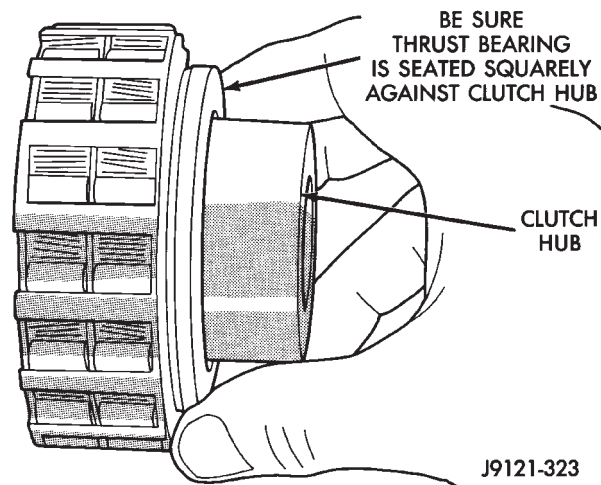

Fig. 41 Installing Overrunning Clutch Thrust Bearing
(9) Install thrust bearing on overrunning clutch hub (Fig. 41). Use generous amount of petroleum jelly to hold bearing in place for installation. **Bearing fits one way only. Be sure bearing is seated squarely against hub. Reinstall bearing if it does not seat squarely.**